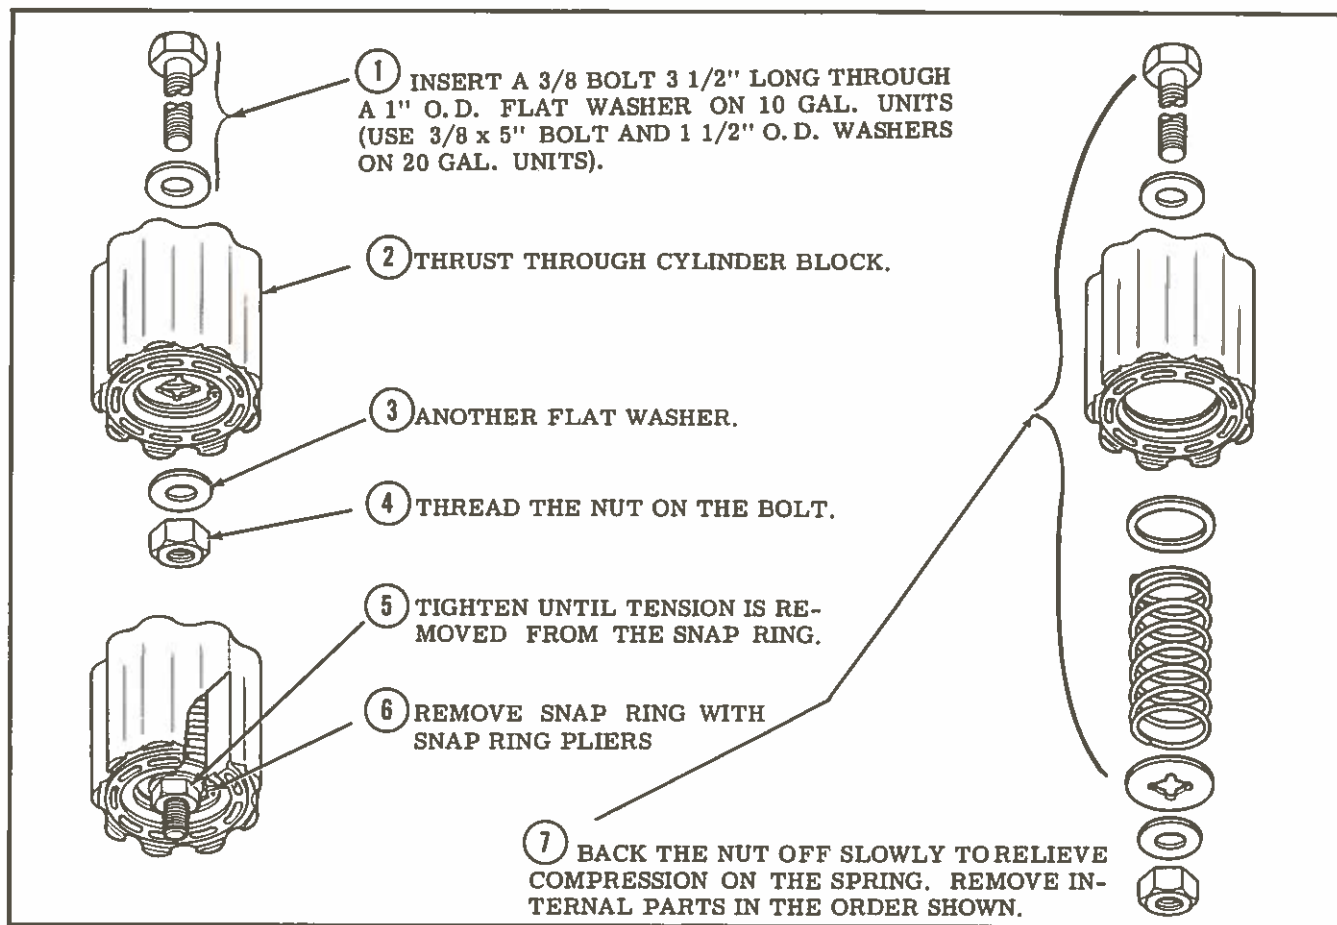

Figure 9
If the spring and washer are to be removed from the cylinder block, follow the procedure outlined in Figure 9 to prevent bodily injury from the sudden release of the cylinder block spring.
4. Rotating Group Assembly - If the spring and washers were removed from the cylinder block, assemble them as shown in Figure 9.